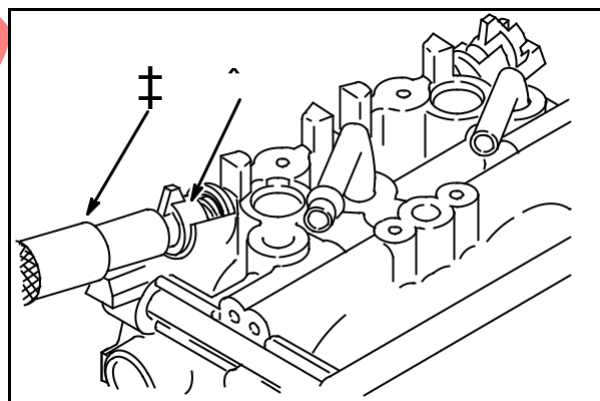

Fig. 22
Position limiter cap (8) so that stop on limiter cap is at mid point between stops on carburetor body. Press limiter into position using Knock Out Pin **#19135** (7) as shown in, Fig. 22.